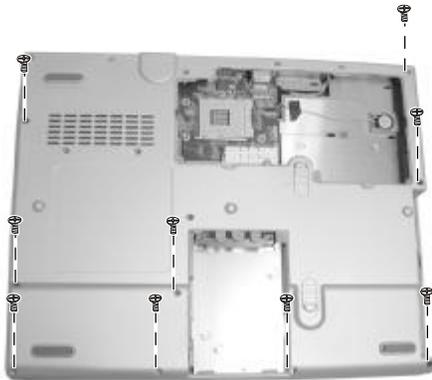

Figure 2-25 Unscrew nine screws
4. Remove nine screws on the bottom of notebook. (Figure 2-25)